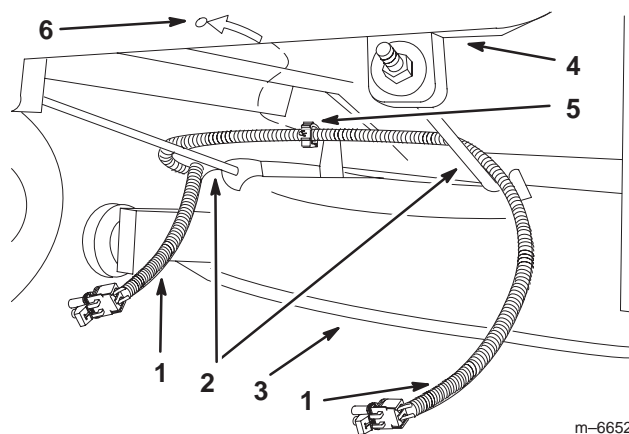

Figure 5
1. Route the wire harness under the foot rest and above the support rods (Fig. 5).
3. Install the wire harness clip into the hole in the front of the machine (Fig. 5)